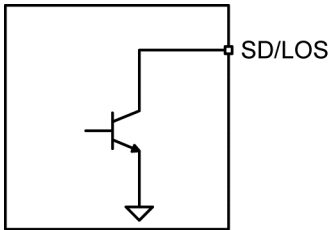

Figure 4. Typical SD/LOS Output Structure
The SY88053CL generates a user-selectable (SD/LOS_SEL pin) signal detect (SD) or loss of signal (LOS) open-collector TTL output, as shown in Figure 4. LOS is used to determine whether the input amplitude is too small to be considered as a valid input. LOS asserts high if the input amplitude falls below the threshold set by SD/LOSLVL and de-asserts low otherwise. LOS can be fed back to the JAM input to perform the SQUELCH function and to maintain output stability under a LOS condition. JAM de-asserts the true output signal low without removing the input signals. Typically, 4dB LOS hysteresis is provided to prevent chattering.